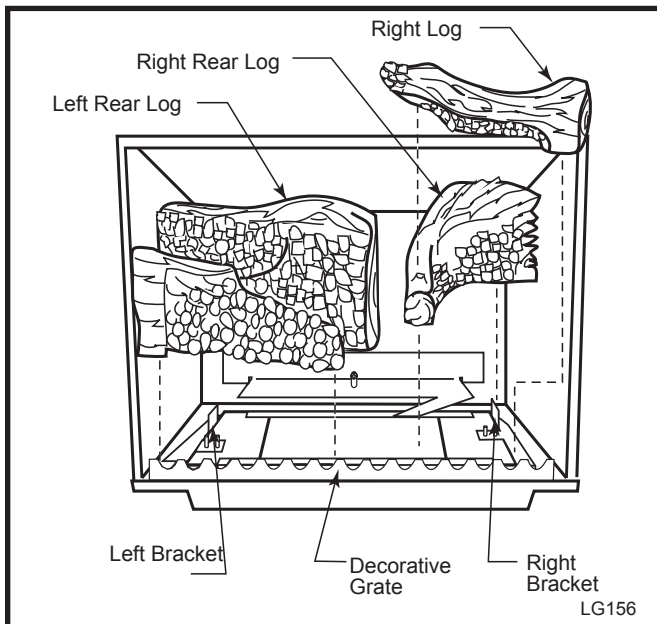

Fig. 39 Install the left and right rear logs and the right log.
2. Install the rear left log by placing it on the sheet metal shelf at the back of the firebox. (Fig. 39) The log should touch the back wall of the firebox. Slide the log to the left until the left side lines up with the left bracket. (Fig. 39) When the log is in place the left front corner of the log should rest on the decorative grate.
3. Install the rear right log by placing it on the sheet metal shelf at the back toward the right. Make sure the right side of the log lines up with the right bracket. (Fig. 39) **NOTE:** When the right and left rear logs are in place, they should touch the back of the firebox and each other.